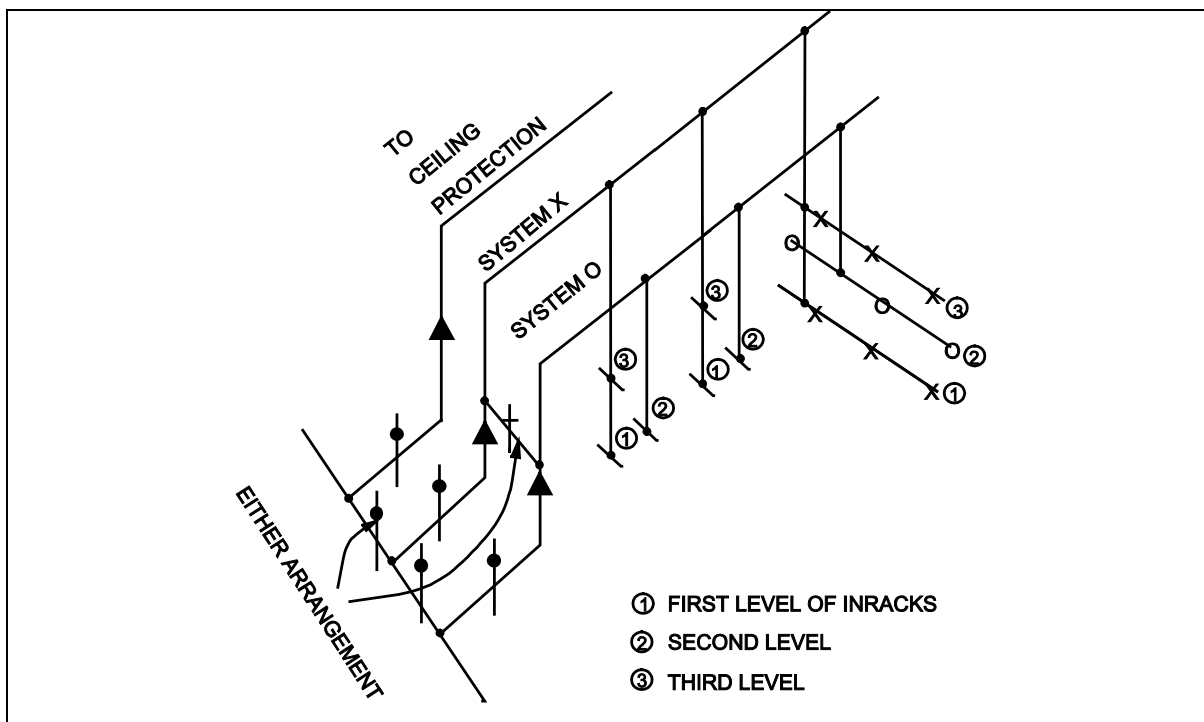
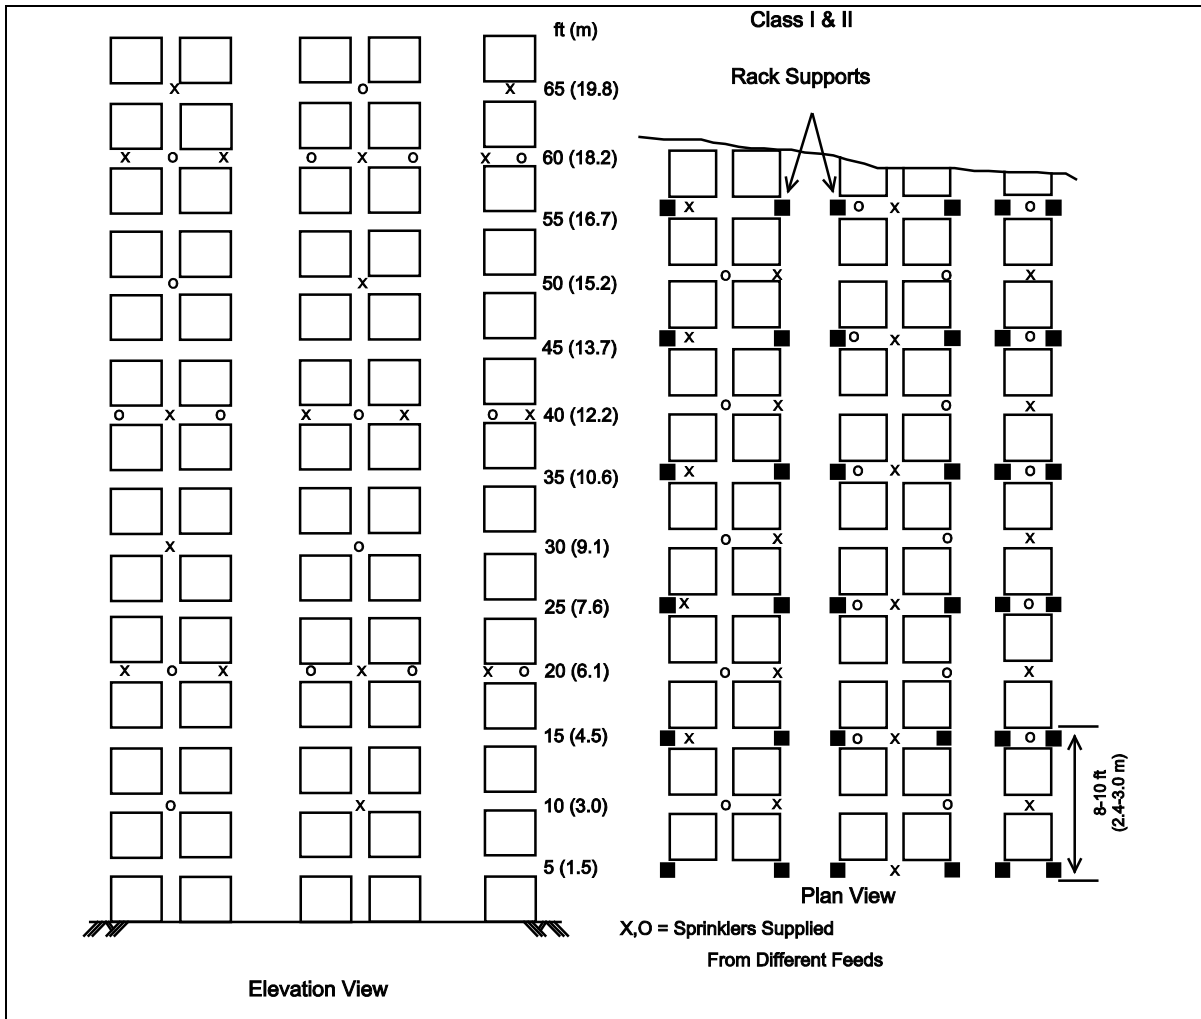

Figure 2. Riser Valving Arrangement For Maximum Reliability.
Figure 7. Example of Maximum Reliability for Class I & II Commodities In-Rack Sprinkler Arrangement without Horizontal Barriers.
Provide two reliable water supplies; **each one capable of meeting NFPA's design demands for hose stream, ceiling sprinklers, and in-rack sprinklers**. It is not necessary that each supply be capable of meeting AXA XL Risk Consulting's higher design demands that might be expected during a partial impairment of the in-rack sprinkler protection as shown in Figures 7 thru 17.
- Feed ceiling sprinklers by a separate riser and feed main from the underground loop (see Figure 2). Maximum spacing per head for this system is 100 ft² (9.3 m²). The maximum area covered by a system is 40,000 ft² (3720 m²).
- Arrange in-rack sprinklers with two separate feeds from the underground loop so that under any credible impairment or single valve closure, no more than 50% of such protection within the warehouse will be affected nor will all the in-rack protection in any one rack be impaired. (See Figures 2 through 6.) Locate in-rack sprinklers in accordance with Figures 7 through 17, depending upon the commodity class, and if any horizontal barriers are installed.
- Figures 7 through 17 include requirements for in-rack sprinkler pipe sizing. For the purpose of this guideline, the sprinkler pipe is the horizontal branch line supplying the in-rack sprinklers. The riser pipe is the vertical pipe within the rack, which supply the sprinkler pipes. The feed main is the horizontal pipe at the floor or ceiling, which supply the riser pipes.